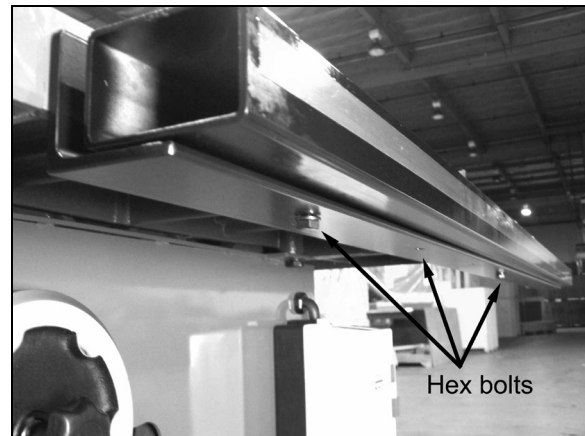

Figure 5
2. Set the front guide on the support bracket as shown in figure 5 and secure into place with the seven hex bolts also provided in hardware packet. Be careful when placing the rail on the bracket that it does not fall off when lining up the holes.